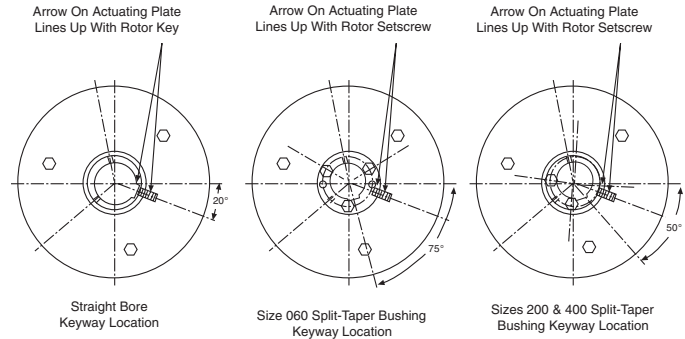

Figure 13 - Actuating Plate Orientation
12. Position the actuating and cam plates on the rotor as shown in Figure 13.